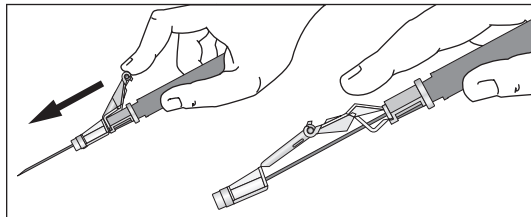

Figure 16
- Immediately activate needle protection device upon withdrawal from patient by pushing lever arm completely forward until needle tip is fully covered (see Figure 16).